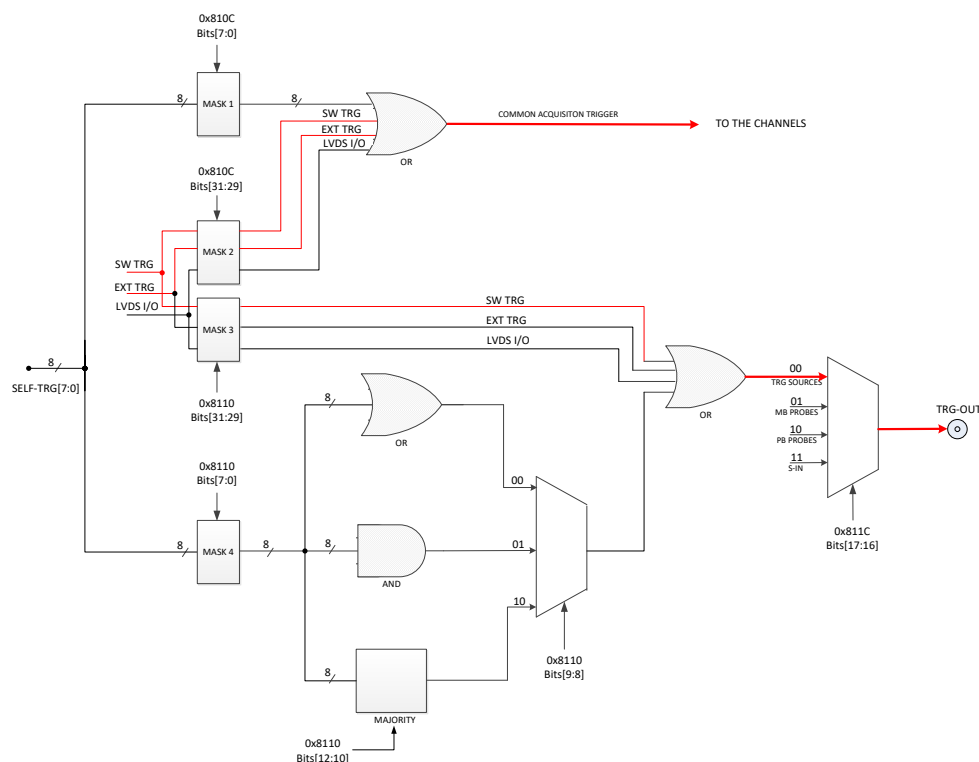

Fig. 8.14: Trigger configuration of TRG-OUT front panel connector.
As described in Sec. **Trigger Management**, the OR of all the enabled trigger sources, synchronized with the internal clock, becomes the common trigger of the board that is fed in parallel to all channels, consequently causing the capture of an event. By default, only the Software Trigger and the External Trigger participate in the common acquisition trigger (refer to the red path on top of Fig. 8.14).
- the OR of all the enabled trigger sources (only the Software Trigger is provided by default, as in the red path of Fig. 8.14);